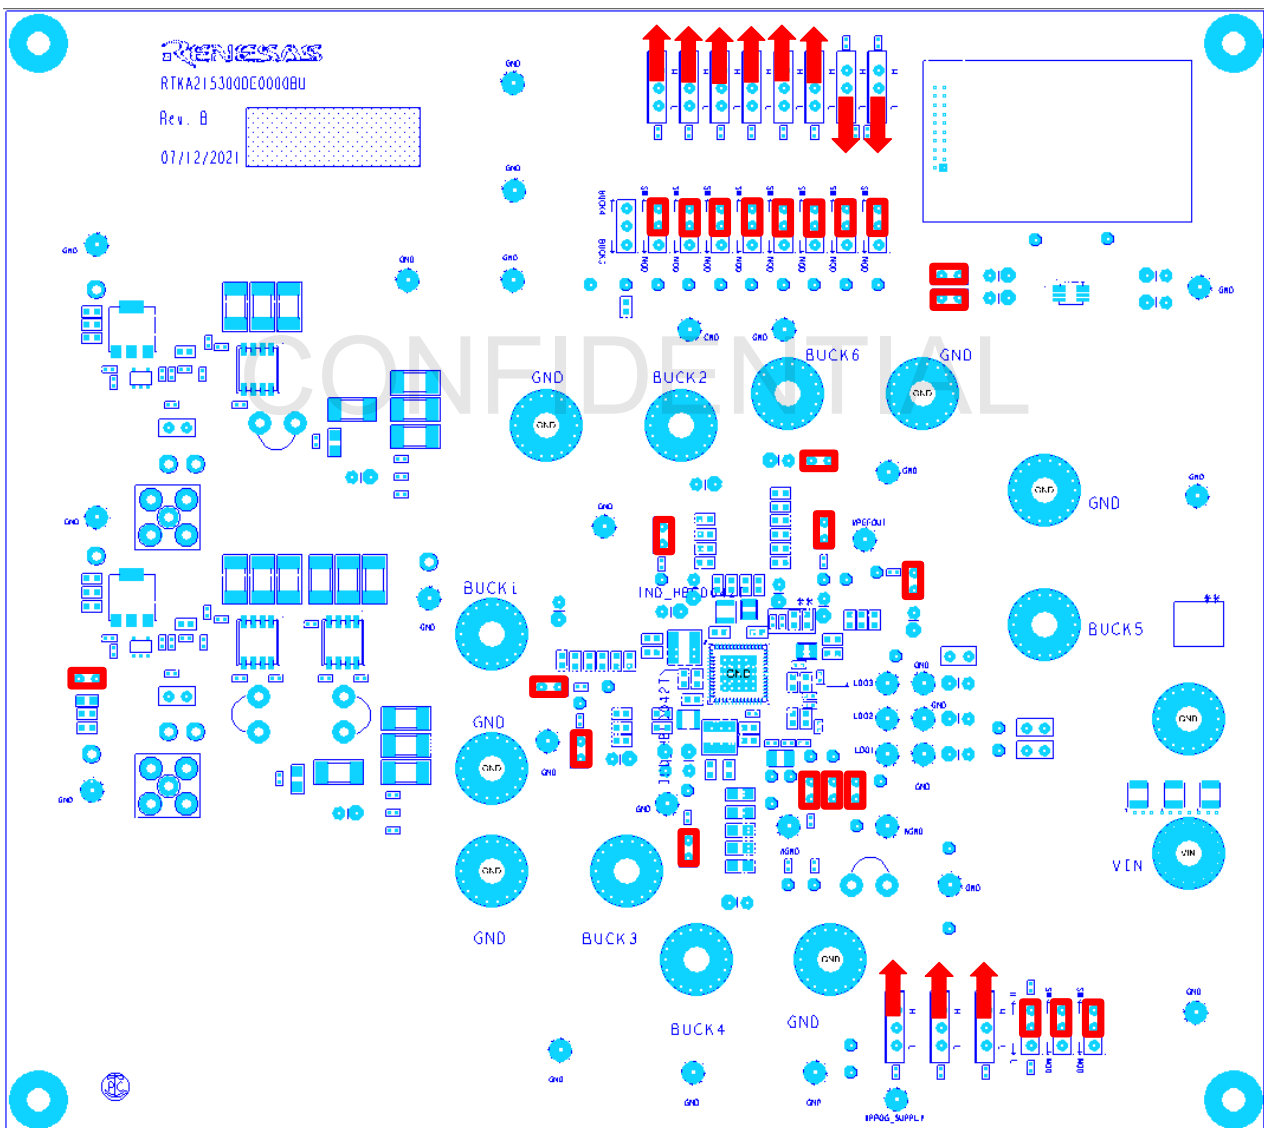

Figure 3. Default State of Switches and Jumpers
- See Figure 3. Set all the switch positions as shown by red arrows.